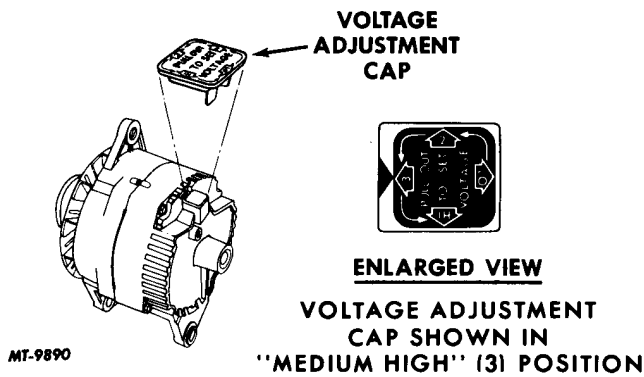

Fig. 4
- f. If ampere output is within 10 percent of rated output as stamped on generator frame, integral charging system is not defective. In this case, an adjustment of the voltage setting may correct the undercharged condition. Raise the setting by removing the voltage adjusting cap, rotating in increments of 90° and then reinserting the cap in the connector body. As illustrated in Fig. 4, the cap is set for medium high voltage. With position 2 aligned with the arrow, the setting is medium low; position "LO" is low, and position "HI" is the highest regulator setting. After adjusting the setting, check for an improved energizer condition after a service period of reasonable length, such as one week.
IMPORTANT: The voltage adjustment in Fig. 4 is for purposes of illustration only. The actual adjustment as shipped from the factory may be in some other position depending on the application requirement.